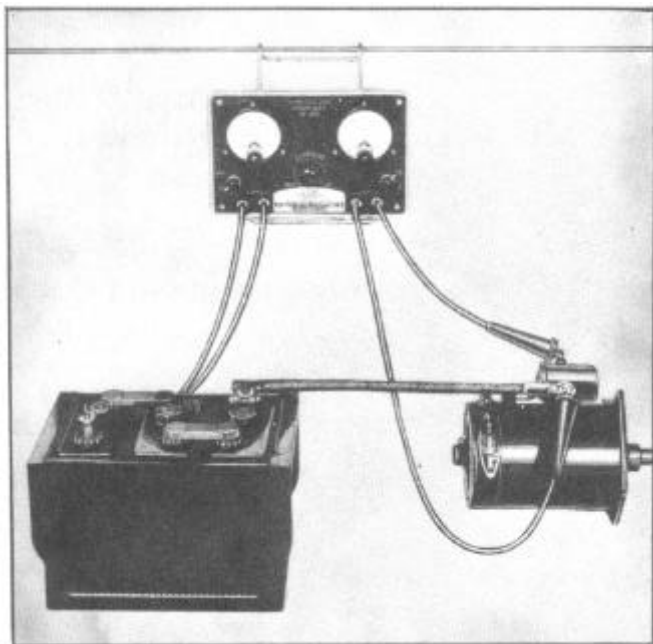

Figure 19--Checking Starting Motor Switch
1. Connect positive voltmeter lead to starting motor terminal of solenoid switch - negative voltmeter lead to "BAT" terminal of solenoid switch, see Figure 19.